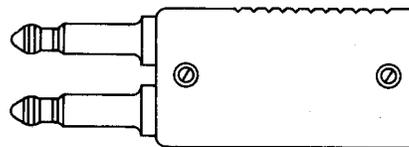

Fig. 21—446A Plug
2.19 **446A:** The 446A (Fig. 21) consists of twin, 3-conductor plug fingers housed in a shell of black insulating material. The tip of each finger of the plug will not momentarily short circuit the tip and ring springs of the jack that it is inserted into, except under remote conditions such as repaired jacks. The 446A plug replaces the 361A plug and is designed to mate with 238-, 239-, or similar-type jacks. This plug is used in the H330-138 Private Line Telephone Testboard Lower Unit.